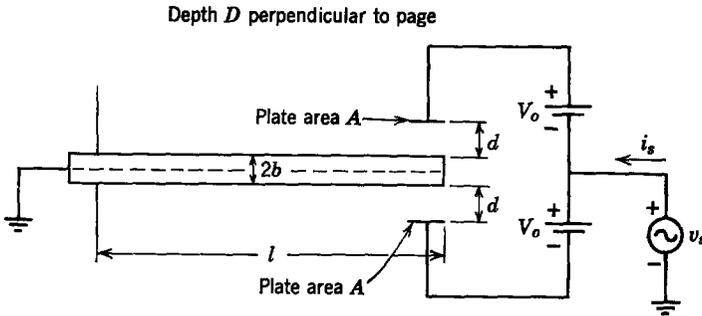

Fig. 11P.10
11.10. The system shown schematically in Fig. 11P.10 is similar to that discussed in Section 11.4.2b. The material of the beam is steel and the system constants and dimensions are